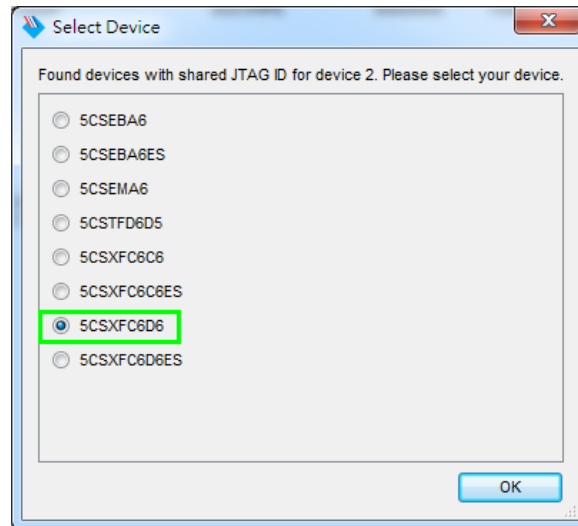

Figure 3-4 Select 5CSXFC6D6 device
2. Select detected device associated with the board, as circled in **Figure 3-4**.